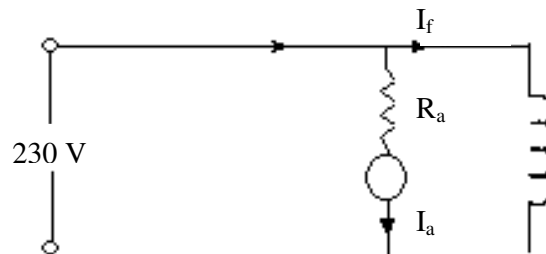

Fig. C2
- Q.3** A 230 V d.c. shunt motor with constant field drives a load whose torque is proportional to the speed. When running at 750 rpm it takes 30 A. Find the speed at which it will run if a 10 ohm resistance is connected in series with the armature. The armature resistance may be neglected. (7)
**Ans:** Fig. C2 shows a dc shunt motor